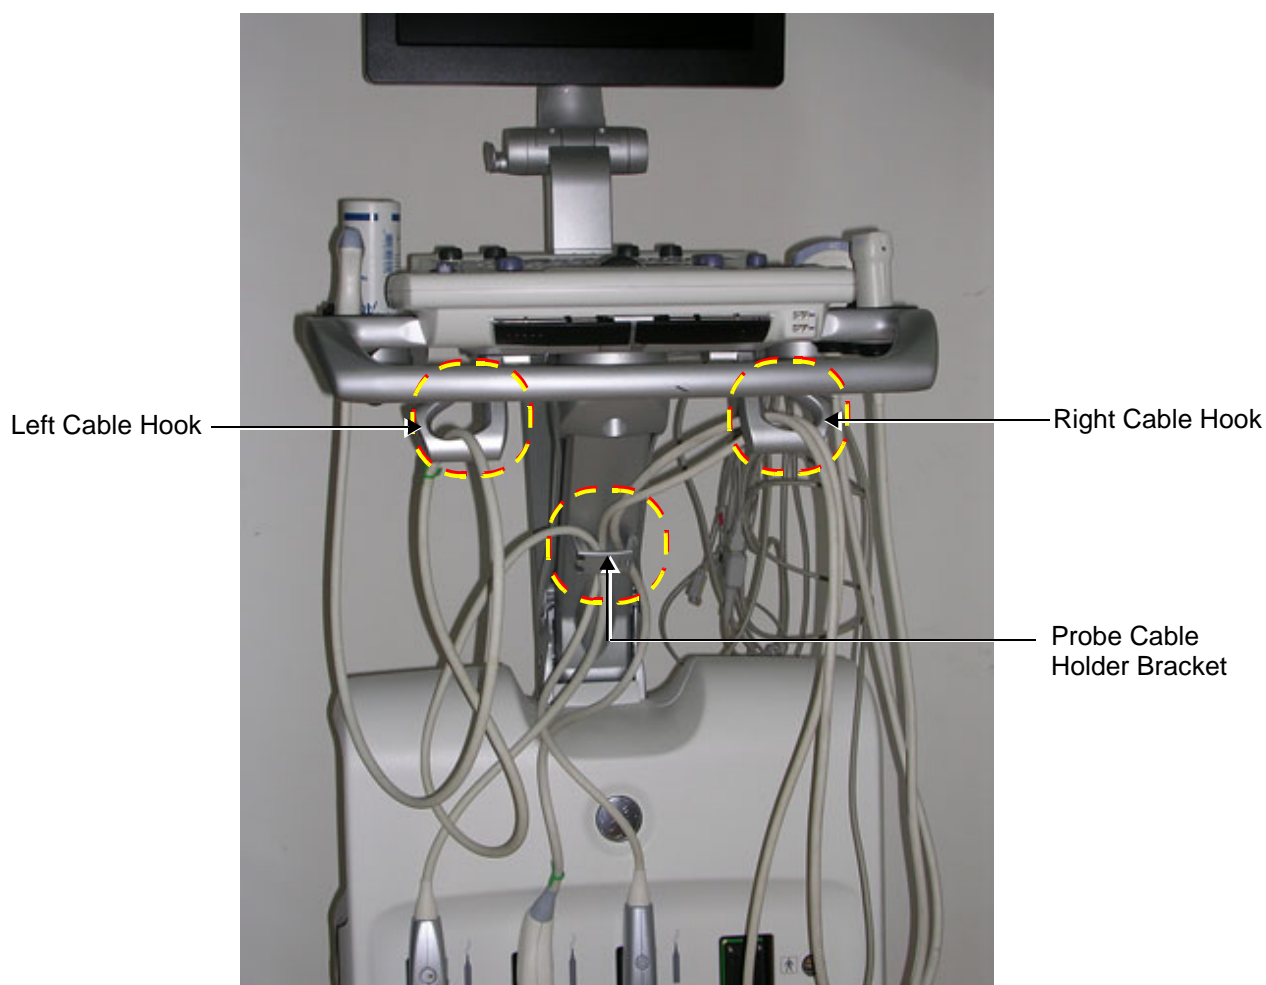

Figure 8-126 Probe Cables Routed Correctly through Probe Cable Holder Bracket and Cable Hooks
When routing the probe cables, it is important to lead the cables upwards from the system's connecting ports as shown in Figure 8-126. Always ensure that the cables do not drag on the floor and are adequately secured by the Probe Cable Holder bracket and *Left* and *Right* Cable Hooks.
- 1.) Lead the right probe cables upwards and thread them via the left and right cable holders as shown in Figure 8-126.
- 3.) Lead the cables via the right cable hook (Figure 8-126) and make one or two loops to shorten the cable.